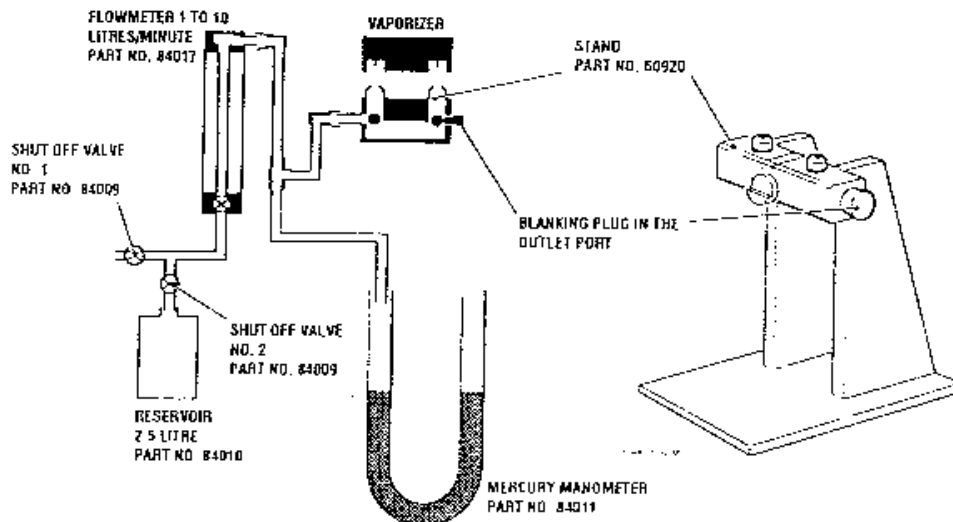

Fig 7.1 Leak Test At OFF And ON
- 1 Mount the vaporizer on to stand Part No. 60920, connect it into the test circuit and open shut off valve No. 2 so that the reservoir is in circuit. Ensure that the blanking plug is fitted into the outlet port of the stand, as illustrated in Fig. 7.1